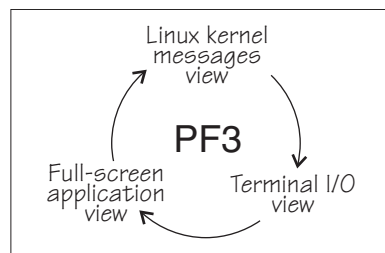

Figure 12. Switching views of the 3270 terminal device driver
Use function key 3 (PF3) to switch between the views (see Figure 12).